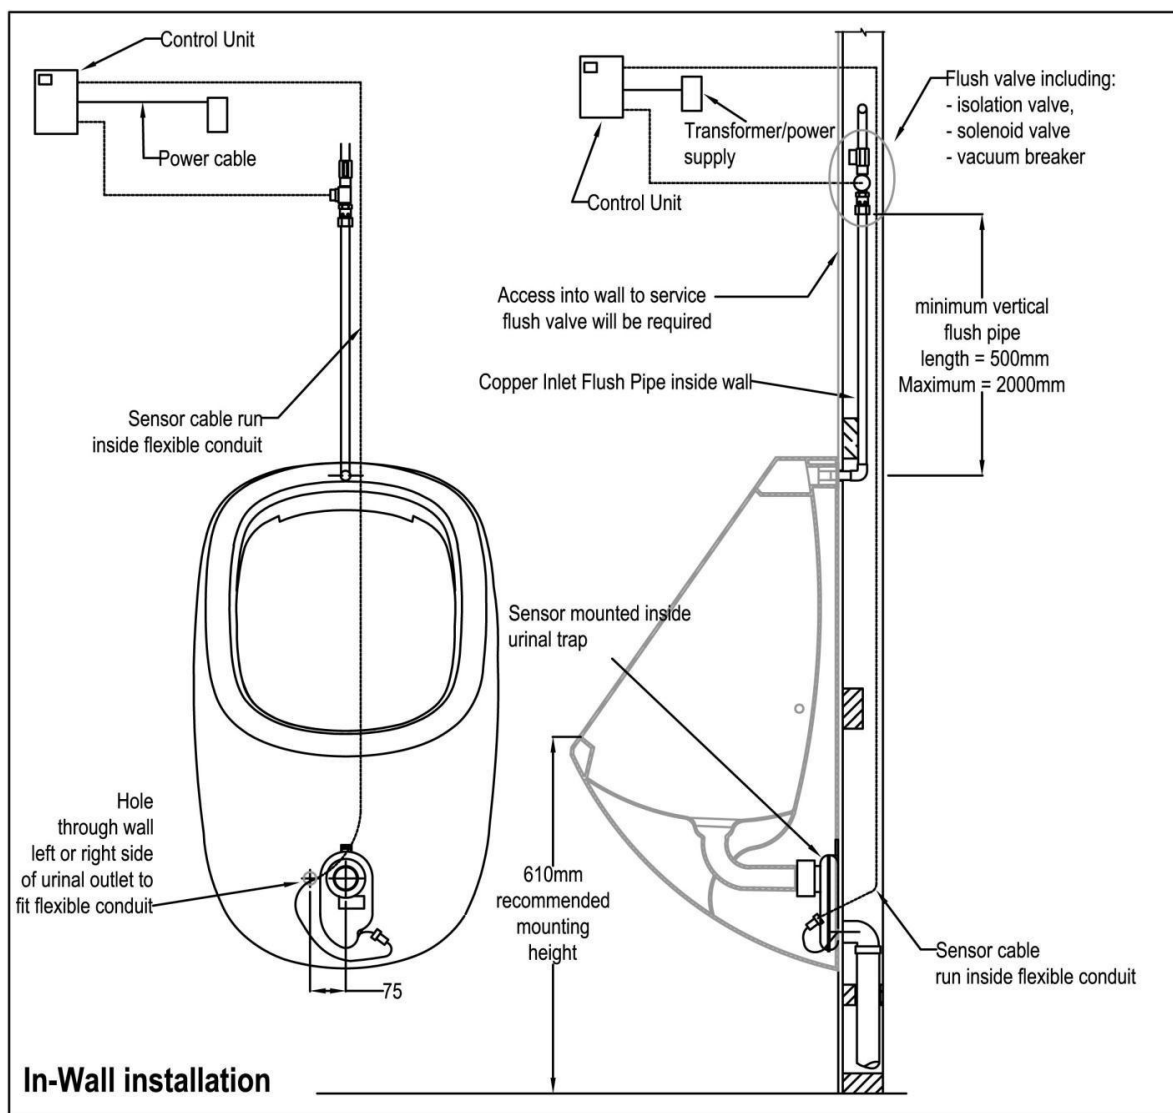

Fig. 13
- Fig. 13 In-wall installation